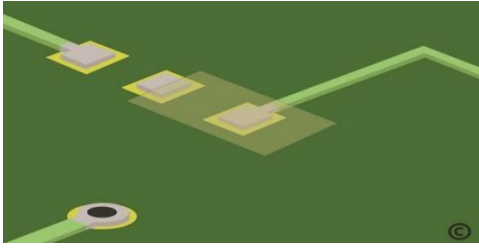

Fig. 3.4
6. Apply additional epoxy to the surface of the lifted circuit and to all sides as needed for additional strength. Tape the repaired pad/trace into position while curing (**Fig.3.4**)